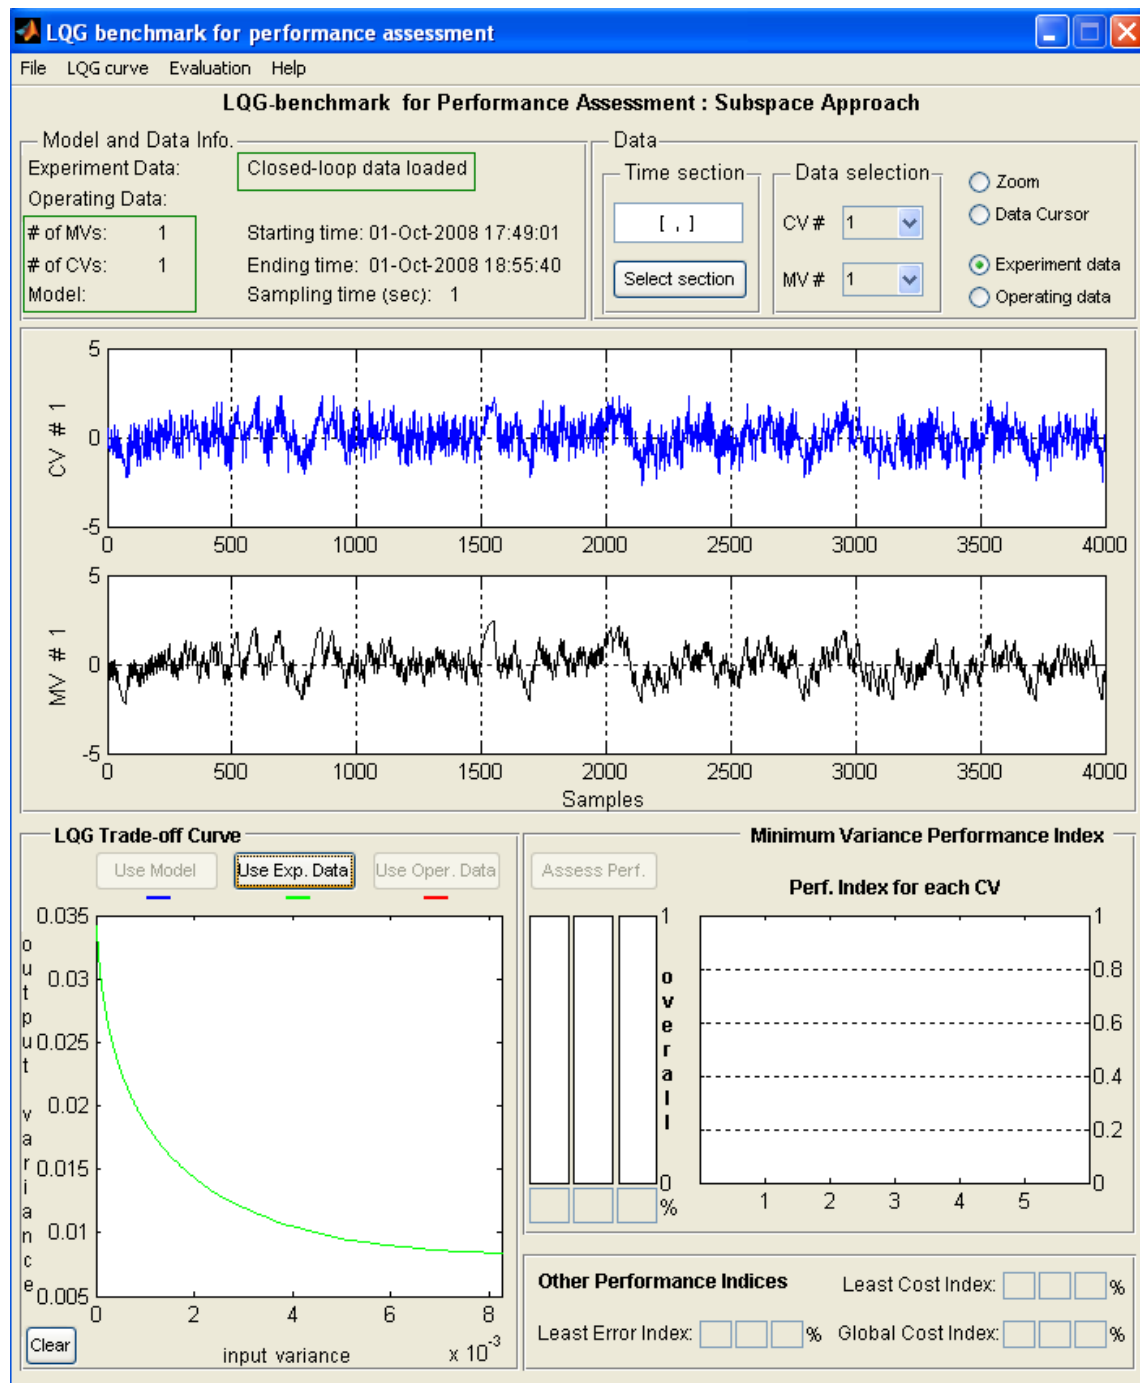

Figure 6: LQG curve estimated form closed-loop experiment data
- 10) If a set of closed-loop or open-loop experiment is loaded, you can press **Use Exp. Data** to estimate and plot the curve (in green) as in Figure 6. Depending on the type of process